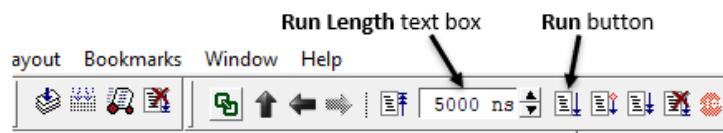

Figure 6.8: Run Length text box and Run button
6. Press **Run** button to run the simulation. See figure 6.8.